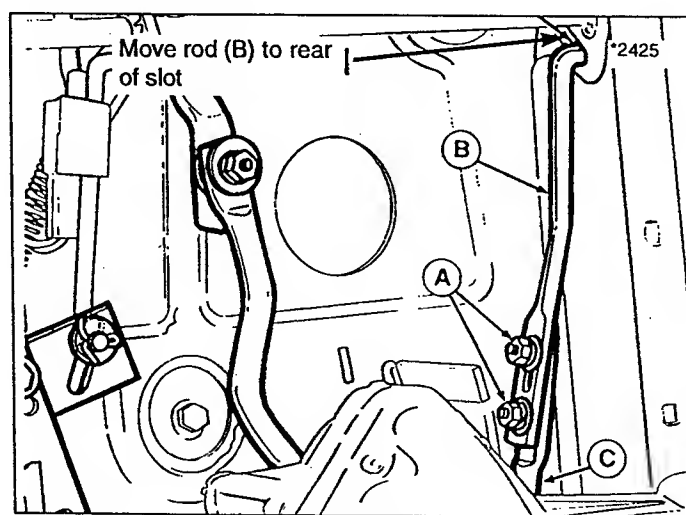

Figure 28. Return-To-Neutral Adjustment - Hydro Models
2. See figure 28. Loosen the two nuts (A) that secure the front return-to-neutral rod (B) to the rear rod (C). Return-to-neutral rod must move freely.
4. Move the front return-to-neutral rod all the way rearward in the slot to shorten the length of the assembled rods (B & C). Tighten the two nuts (A).